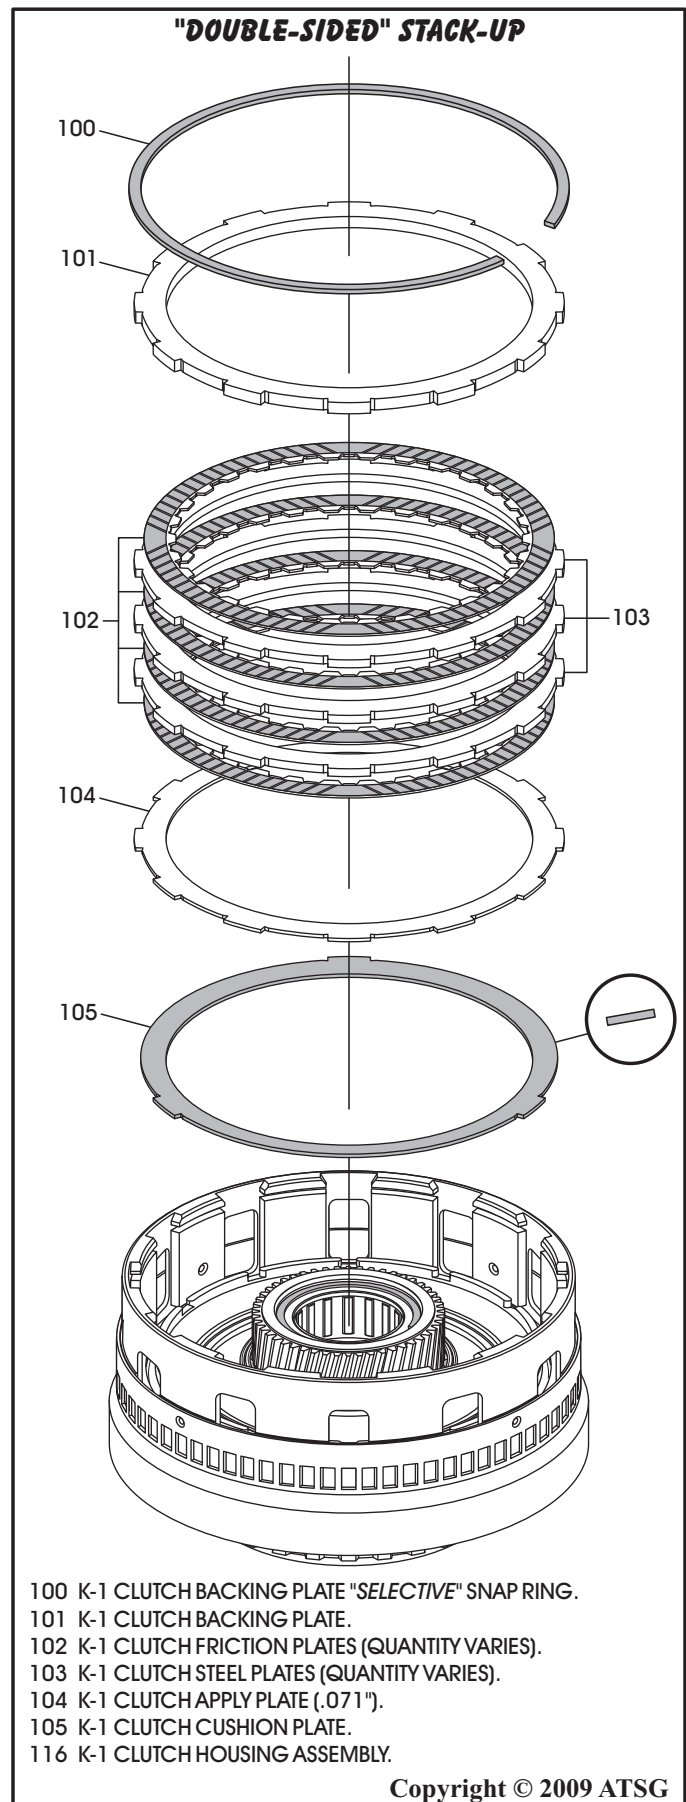

Figure 94
20. Install the K-1 clutch "dished" cushion plate in the direction shown in Figure 94.
21. Install the K-1 clutch .071" thick apply plate, as shown in Figure 94.
22. Install "double-sided" clutches beginning with friction plate and alternating with steel plates, as shown in Figure 94, until you have proper number of plates installed.
23. Install the K-1 clutch backing plate, as shown in Figure 94.
24. Install the K-1 clutch selective snap ring, as shown in Figure 94.